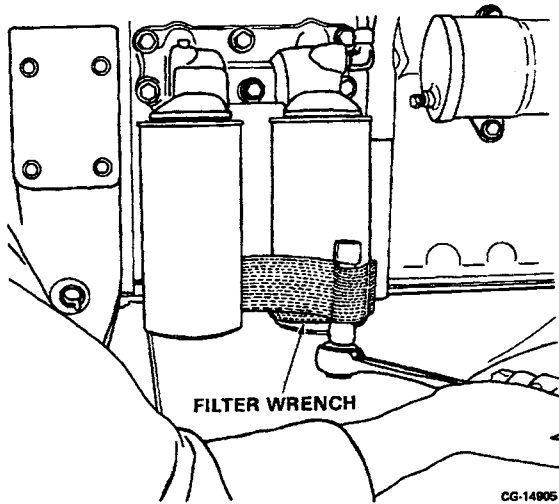

Figure 9.17. Remove Oil Filters
1. Remove the oil filters using an appropriate filter wrench. Refer to Figure 9.17. Discard the filters.